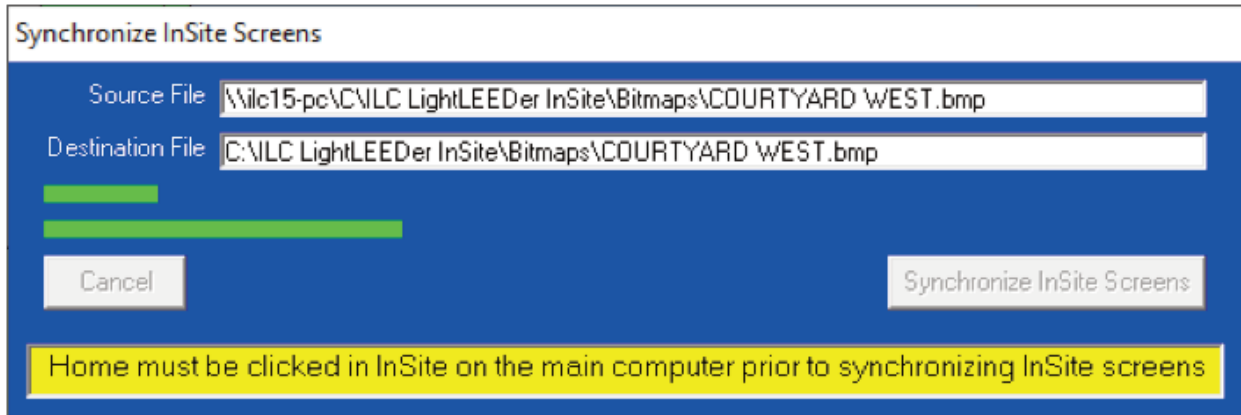

Figure 4.10 Synchronize InSite Screen message
3. Select Synchronize InSite Screens button, a progress screen will be displayed as shown in figure 4.10